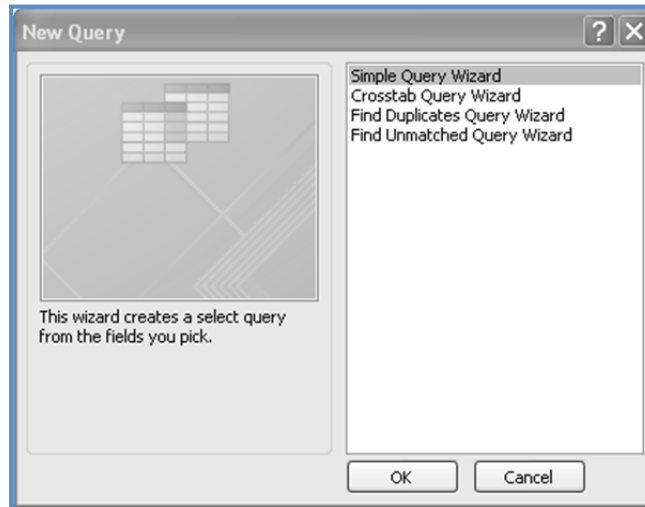

Fig. 1.2.12: New Query Dialog Box
2. The New **Query** window appears, as shown in Fig. 1.2.12.